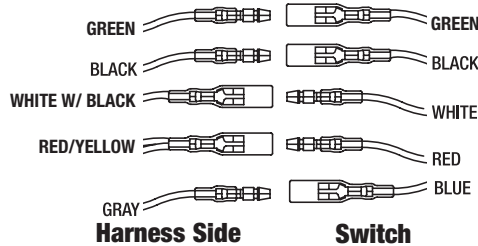

Figure 2. Kill Switch Wiring Connections
Step 4 - Handlebar Switch Wiring Connections (Fig 2)
Carefully match up the wire colors as shown in figure 2, fully seating the connectors. Start by taking the GREEN wire from the handlebar switch and connect to GREEN wire coming from H4 headlight connector.